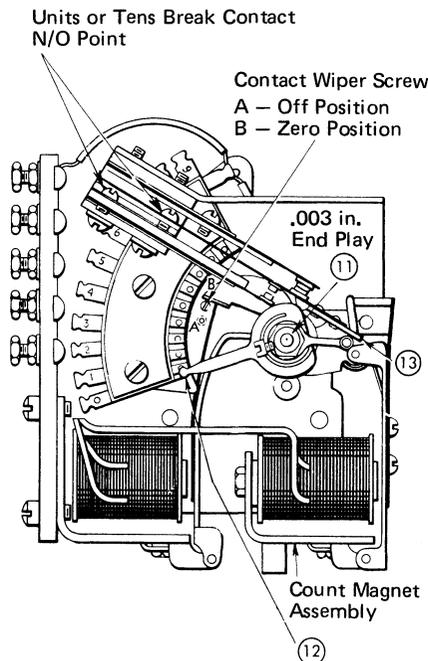

Figure 2-71. Wiper Assembly
11. Position collar to permit .003-inch end play of wiper and ratchet assembly on stud (Figure 2-71).
12. Loosen hex nut of wiper and ratchet assembly to center wiper finger on contact segment (Figure 2-71).
13. The break contact should be made on the lower side with a clearance between the center strap and the contact operating arm when the wiper is on the one segment (Figure 2-71).